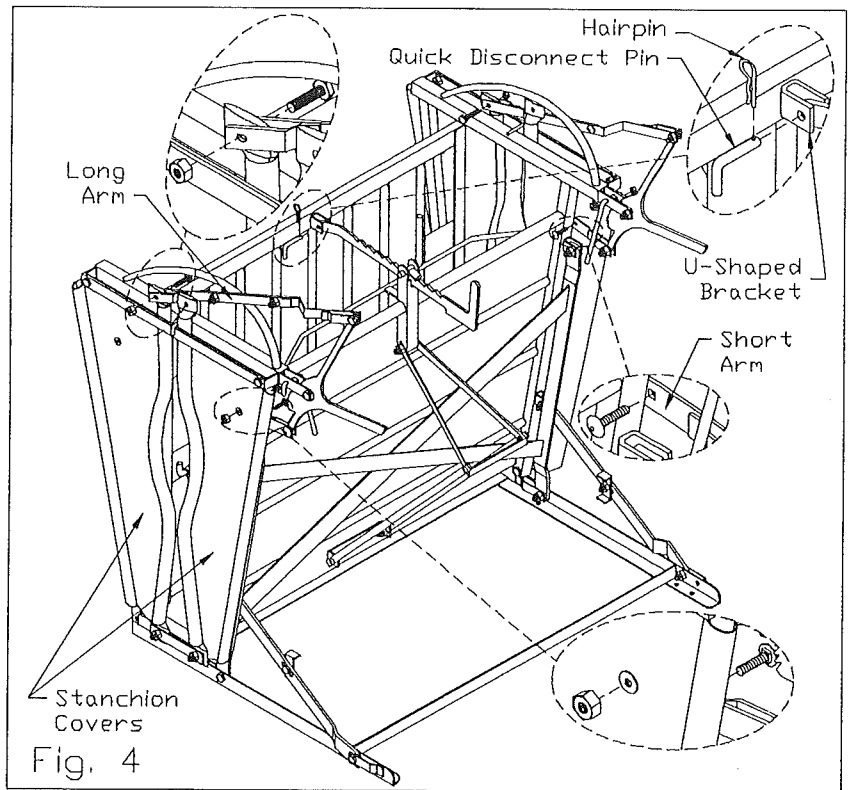
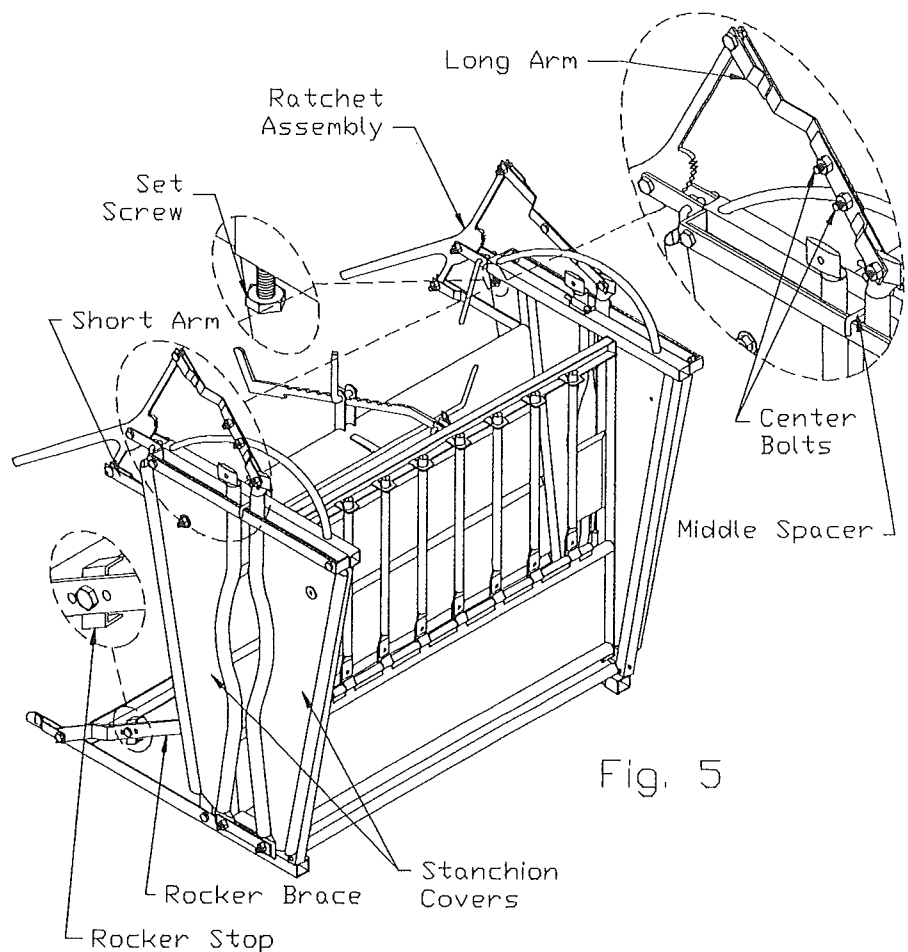

Fig. 4
Fig. 5
Secure the Straight Ratchet to the U-Shaped Bracket on the Side Panel with the Quick Disconnect Pin and Hairpin as shown in figure 4. Using a 3/8" x 1" carriage bolt and 3/8" lock nut, secure the Short Arm on the Stanchion Ratchet Assembly to the Stanchion Covers on both ends of the Calf Table as shown. Bolt the Long Arm on the Stanchion Ratchet Assembly to the Stanchion Covers on both ends of the Calf Table using 1/2" x 1-1/2" hex bolts and 1/2" lock nuts as shown in figure 4.
1. The Stanchion Ratchet Assembly needs to be adjusted so that, when the Stanchion Covers are completely closed the Ratchet Assembly is locked on its last tooth. To do this, loosen the two center bolts on the Long Arm, and the Set Screw shown in figure 5. With the Ratchet Assembly set on the last tooth, slide the Ratchet Assembly into the square tube until the Stanchion Cover attached to the Short Arm hits the middle spacer. Tighten the Set Screw to secure the Ratchet Assembly in place. With the center bolts on the Long Arm loose, slide the far Stanchion Cover towards the middle spacer and tighten the two center bolts as shown in figure 5. If your Calf Table has Stanchion Covers and Ratchet assemblies on both ends, repeat this step on the opposite end.
2. The Rocker Stops (*one on each side of the Table as shown in figure 4*) shown in figure 5 is what sets the angle at which the Table lays. There are three possible settings at which the Rocker Stops can be set. By moving the Rocker Stops between the three holes on the Rocker Braces, (*one on each side of the Table as shown in figure 4*) the angle the Table lays is changed. The bottom holes on the Rocker Braces will allow the Table to lay down past a 90-degree angle, so that it has a downward slope. The middle holes make the Table lay horizontally or at a 90-degree angle. The top holes will have the Table lay with an upward slope or not quite to 90-degrees. It is important to note, that while adjusting the Rocker Stops they need to be positioned so that when the Table is laid down the entire edge of the Rocker Stops rest flat against the edge of the Cross Brace. (*shown in figure 2*)